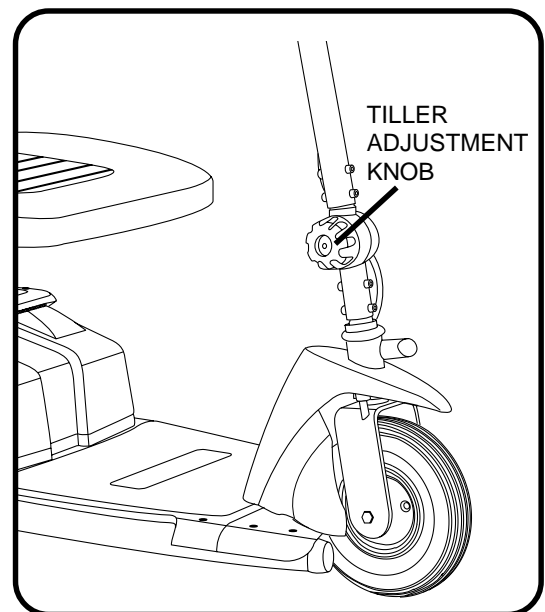

Figure 9. Tiller Adjustment
1. Turn the tiller adjustment knob anticlockwise to loosen the tiller. **See figure 9.**